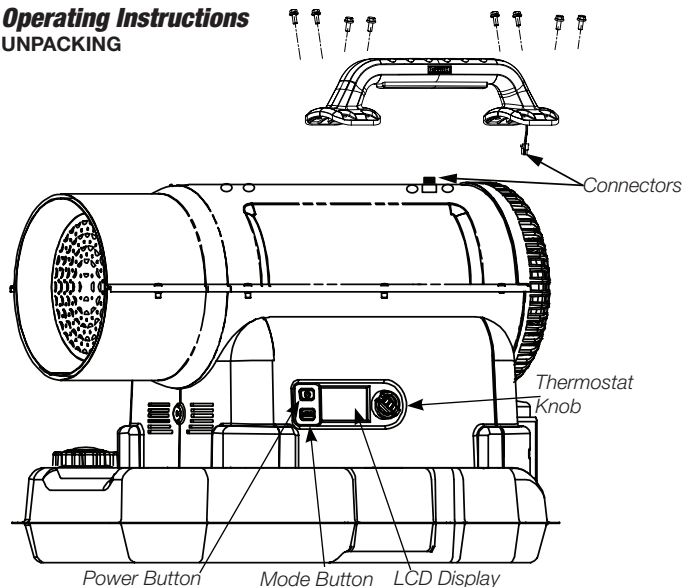

Fig. 1
- b. Carefully guide the excess wire up into the handle as you center it on the 8 mounting points to attach the handle. See Fig. 1. Make sure to not pinch the wiring between the handle and heater when fastening down.
2. Press the power button until the LCD screen illuminates. Refer to Fig. 1.